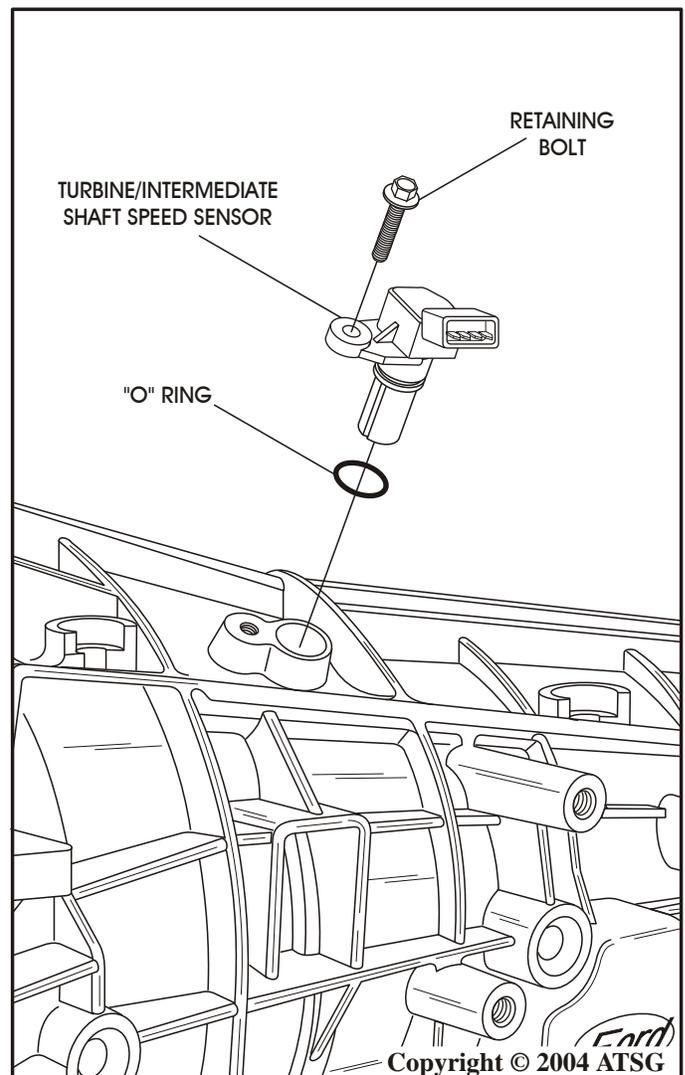

Figure 185
46. Install new "O" ring on turbine/intermediate speed sensor, as shown in Figure 185.
47. Lubricate "O" ring and install the speed sensor as shown in Figure 185.